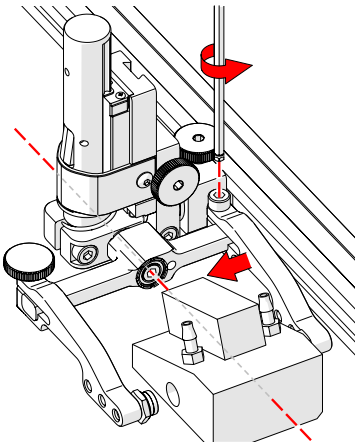

Fig. 115 - Adjust inner arm
**TIP:** The probe holder yoke can accommodate many different probe and wedge sizes of varying widths. It is best to centre the wedge with the yoke's pivot axis. This can reduce wedge tipping when scanning. Position the inner probe holder arm accordingly (Fig. 115) using the supplied 3 mm hex driver (Fig. 24).